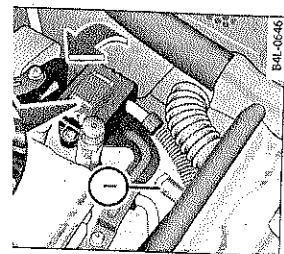

Fig. 318 Engine compartment: Connectors for jumper cables and charger
- Open the red cover on the positive pole \Rightarrow page 390, fig. 318.